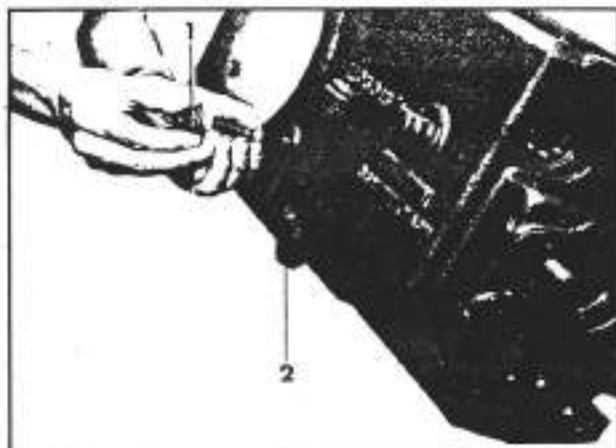

Fig. 3-36. Removal of the poppets of the control rods
- m. Unscrew the nuts (1, 2; fig. 3-36) and remove the springs and poppet balls of both the power take-off control rod and the front-differential and transmission unit control rod. Take out both rods.